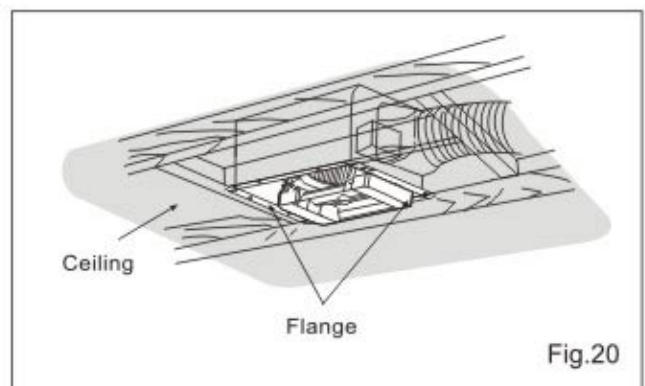

Fig.20
5. Finish ceiling work. Ceiling hole should be aligned with edge of the flange. (Fig.20 of page 11)
6. Finish ceiling work. Ceiling hole should be aligned with edge of the flange. (Fig.20)